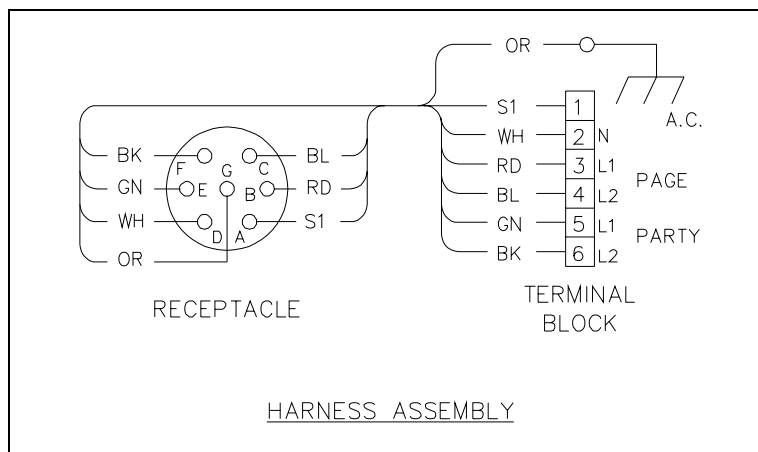

Figure 2. Model 773-001 Wiring Details
5. Wire the jack station. Refer to Figure 2 for wiring details. In single-party systems, the orange (spare) conductor wire is the only one not used. In multi-party systems, tape back the conductors for the party lines not linked to the portable station.